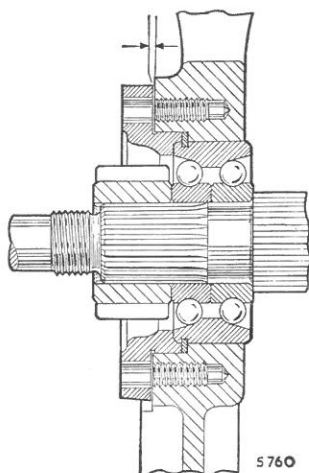

Fig. F.5
- (30) Refit the third motion shaft bearing retainer without any shims, lightly tighten the bolts and measure the gap, see Fig. F.5. Fit the shims required (see chart), ensure that they are fitted under the layshaft and reverse shaft locking plate, and finally tighten the bolts and turn over the tab washers.
- (31) Refer to item (10). Insert the oil suction pipe into the oil strainer assembly, and tighten first the external flange securing bolts and then the bracket retaining bolts. Take care not to displace the oil seal from the strainer.
- (32) Fit new idler gear needle-roller bearings if required. Engage the expandable collets of Service tool 18G 581 with each old bearing and screw up the nut on the tool to extract them, after removing the outer circlip (when fitted) from the transmission casing boss.